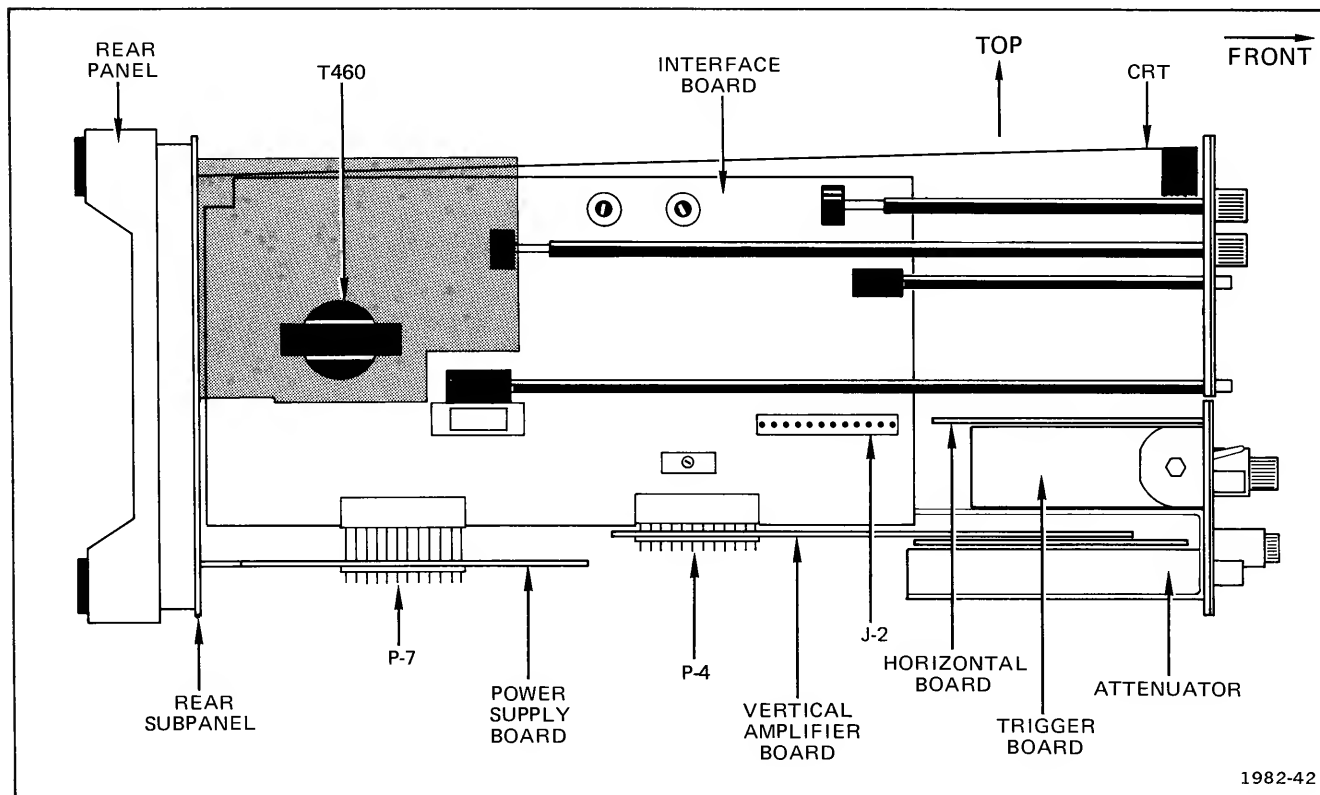

Fig. 5-7. Circuit board locations (on left side of crt).
To remove the vertical amplifier (see Fig. 5-7) from the instrument:
2. Disconnect P4 (see Fig. 5-7) from J4 on the Interface board by lifting the entire vertical amplifier. Be careful not to bend the pins.
3. Disconnect P7 from J7 on the Interface board by lifting the Power Supply board and transformer out. (See Fig. 5-7).
4. Remove P2 (see Fig. 5-7) from J2 on the Interface board by pulling the entire Time Base toward the right side of the instrument. Be careful not to bend the pins.